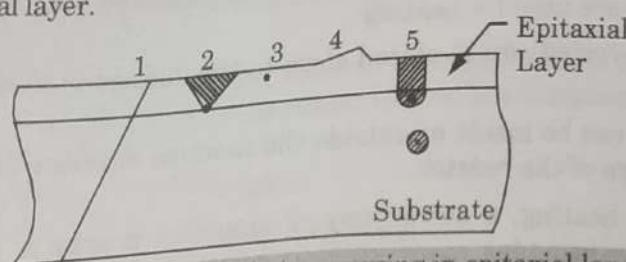

Fig. 2.7.1. Common defects occurring in epitaxial layers.
5. Fig. 2.7.1 is an example of an existing line dislocation continuing into epitaxial layer.